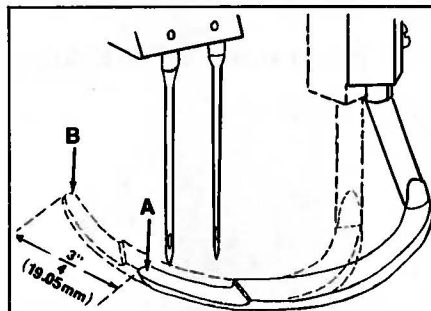
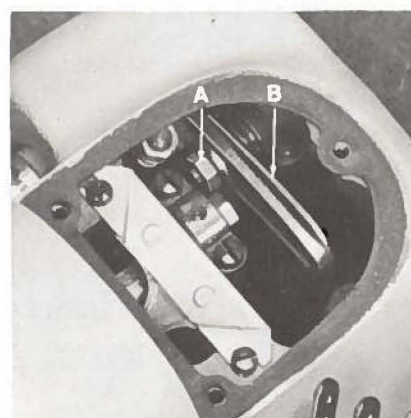

FIGURE 16
FIGURE 17
The travel of the spreader from point (A, Fig. 16) to point (B) should be $\frac{3}{4}$ inch (19.05 mm). Adjustment is made by loosening nut (A, Fig. 17) and moving the ball joint in the rocker shaft lever (B) as required. The further away from the rocker shaft the ball joint is located, the shorter the travel of the spreader. Retighten nut (A) after adjustment. Check clearance between connecting rod ball joint and machine casting.